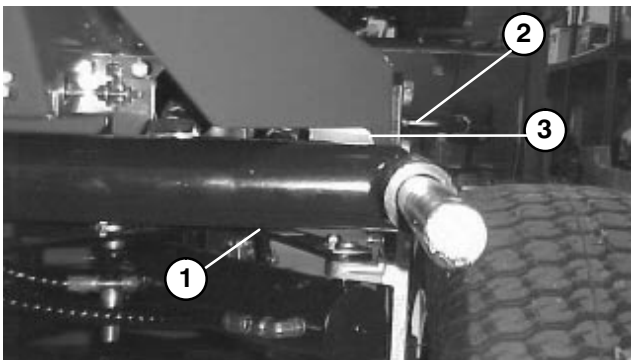
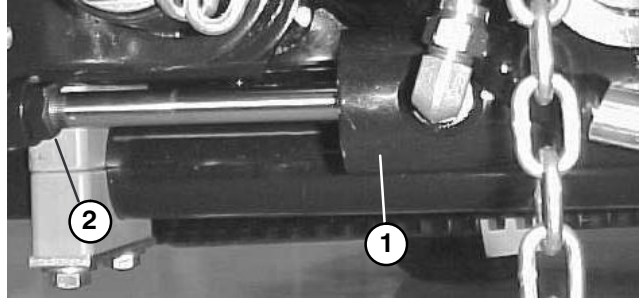
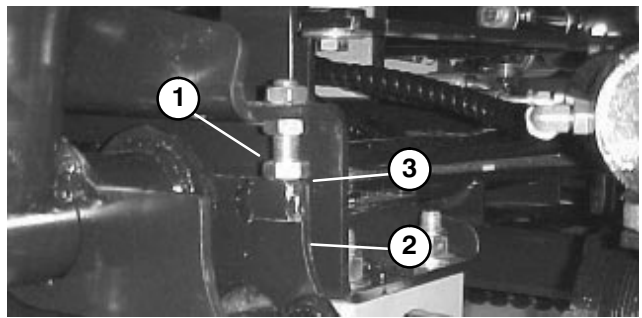

Figure 23
Figure 24
Figure 25
ADJUST LIFT ARMS (Fig. 23 – 27)
- Start engine, raise lift arms and check to make sure clearance between each lift arm and floor plate bracket is .18" – .32" (Fig. 23). If clearance is not in this range, back off stop bolts (Fig. 25) and adjust cylinder to attain clearance. To adjust cylinder, back off the jam nut on the cylinder (Fig. 24), remove pin from rod end and rotate clevis. Install pin and check clearance. Repeat procedure if required. Tighten clevis jam nut.
- Check to make sure clearance between each lift arm and stop bolt is .005" – .040" (Fig. 25). If clearance is not in this range, adjust stop bolts to attain clearance.